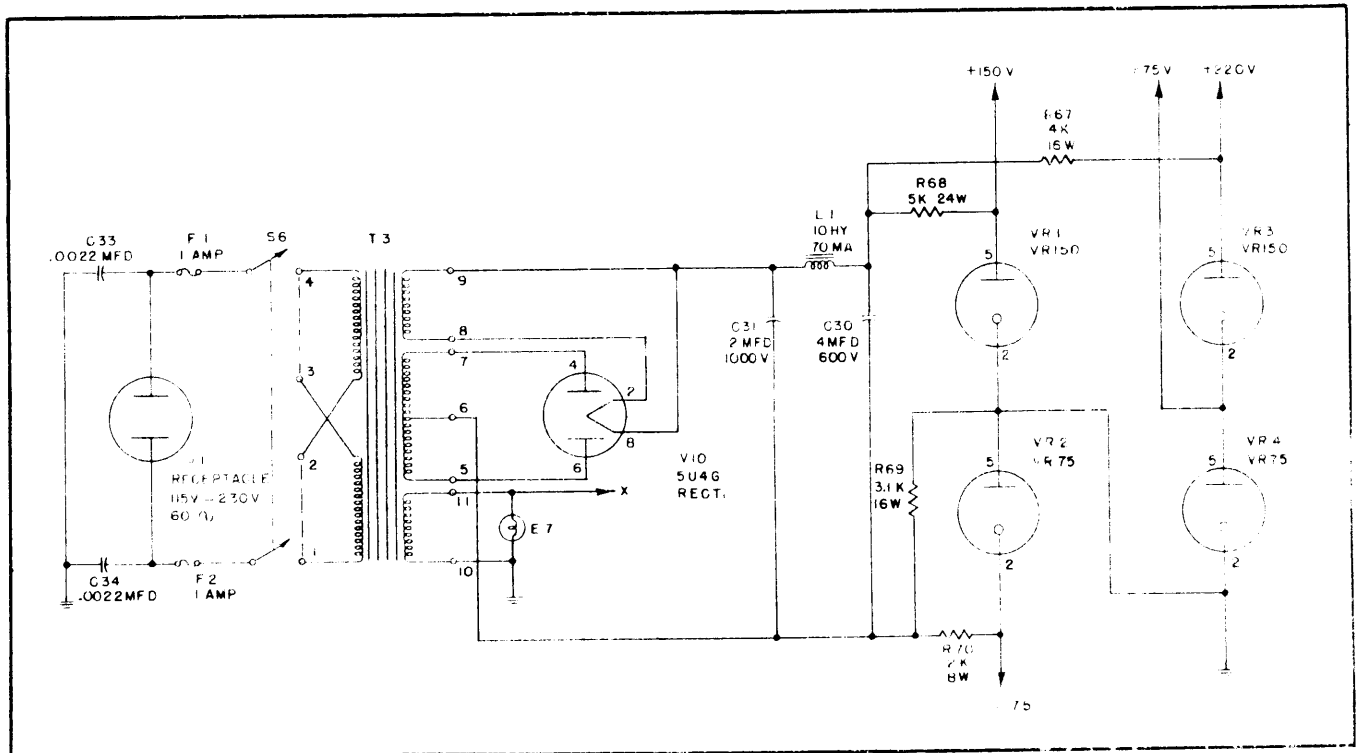

**Figure 2-7. SFO-2 Regenerator Circuit**
*e.* REGENERATOR CIRCUIT.—The Regenerator circuit provides the output teletype signals in normal keying form and with less than 5% distortion. The one shot multivibrator Regenerator circuit employing tube V9 and relay K1 is illustrated in Figure 2-7. Relay K1 is connected in the output section of V9 (V9B) and is normally excited and has its contacts closed during any steady input condition to the Regenerator. When a teletype signal is applied to the Regenerator, a positive pulse will be impressed on the grid of tube V9A from the cathode of Sampling Gate Tube V8B every time a space pulse occurs. With normal adjustments for 60 wpm operation, tube V9 will trigger into its unstable state upon application of the positive trigger pulse and remain in this state for about 19 ms before triggering back to the stable state. This operating time interval is determined primarily by the values of capacitor C24 and resistors R55 plus R54. Resistor R54 is the DISTORTION control and permits adjustment of this time by at least  $\pm 10\%$ . At the instant V9A is triggered by the pulse from tube V8B, tube V9B ceases to draw current and the relay K1 opens within two ms. Assuming there is no space pulse following the start pulse, the current will not be applied to the relay again for 19 ms and the relay coil characteristic is such that the contacts will not close for five ms after the current has been applied. The total time the relay contacts will be open can be calculated from the following formula: